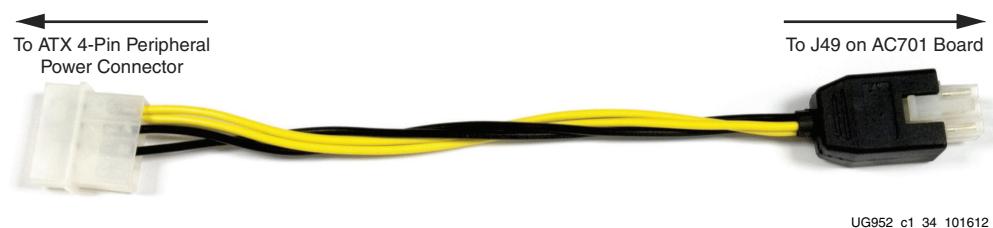

Figure D-1: ATX Power Supply Adapter Cable
When the AC701 board is used inside a computer chassis (i.e., plugged in to the PCIe® slot), power is provided from the ATX power supply 4-pin peripheral connector through the ATX adapter cable shown in Figure D-1 to J49 on the AC701 board. The Xilinx part number for this cable is 2600304.
7. Connect the ATX power supply to the AC701 board using the ATX power supply adapter cable as shown in Figure D-1: